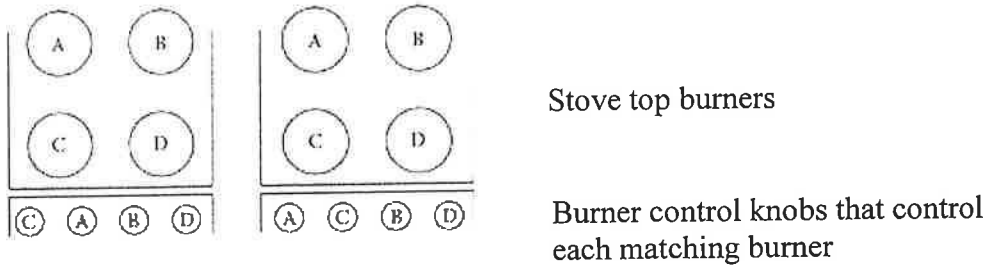

Figure 3: Common layout of controls for top burners of a domestic stove
- [5 marks] Identify the human factors issues/risks with the two layouts in Figure 3. Explain why these are issues/risks.